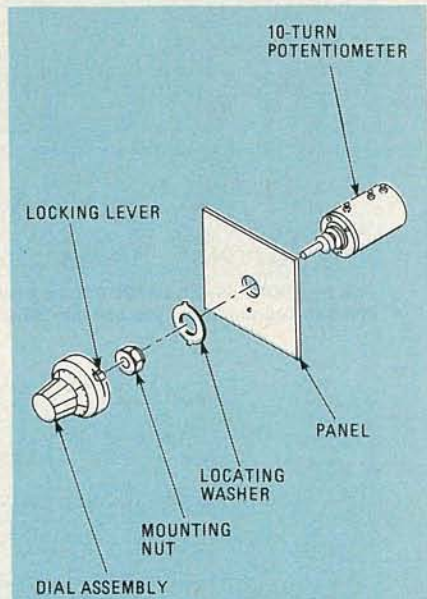

FIG. 5—MOUNTING A MULTI-TURN DIAL and potentiometer can be difficult if you don't follow the instructions carefully.
When buying components, be sure to select a dial that matches the potentiometer's shaft diameter. To mount the potentiometers and dials, refer to Fig. 5 and follow the procedure described below, adapted from instructions prepared by Beckman Instruments for the *Helipot Duodial* series of potentiometers and turns-counting dials which were used on the prototype.
- With a wrench, firmly tighten the mounting nut into the potentiometer bushing. Note that the nut supplied is reversible. For thick panels, use as shown in Fig. 5. For thin panels, reverse the nut.